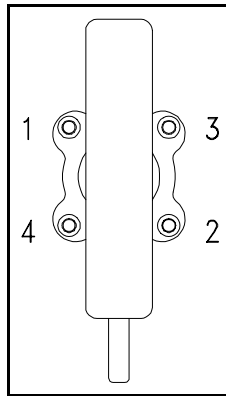

Figure G-2. Bolt Torquing Sequence.
- d. Using soft-faced mallet, install flow sleeve assembly (19) on bolt flange end of retaining nose assembly (30).
- e. Place piston (18) with new O-ring (20) into flow sleeve assembly (19). Then push oil tube (21) into counterbore in end of flow sleeve assembly (19).
- f. Reassemble valve body (23), reversing spool (6), two new O-rings (7), valve gland (8), and new O-ring (9). Check for free reversing spool movement.
- g. Install backup ring (11) and new O-ring (10) in face of bolt flange of handle body assembly (3).
- h. Using pin (22) in flow sleeve assembly (19) for alignment, push assembled valve body (23) into flow sleeve assembly. Continue pressing on assembled valve body until it is seated in flow sleeve assembly.
- i. Carefully push handle body assembly (3) onto bolt flange end of retaining nose assembly (30) and into flow sleeve assembly (19), making certain that pin (22) enters alignment hole in handle body assembly.
- j. Install four bolt assemblies (5) through handle body assembly (3) and screw them into bolt flange of retaining nose assembly. Torque four bolts to 20 foot-pounds in increments of 5 foot-pounds, using sequence shown in Figure G-2.